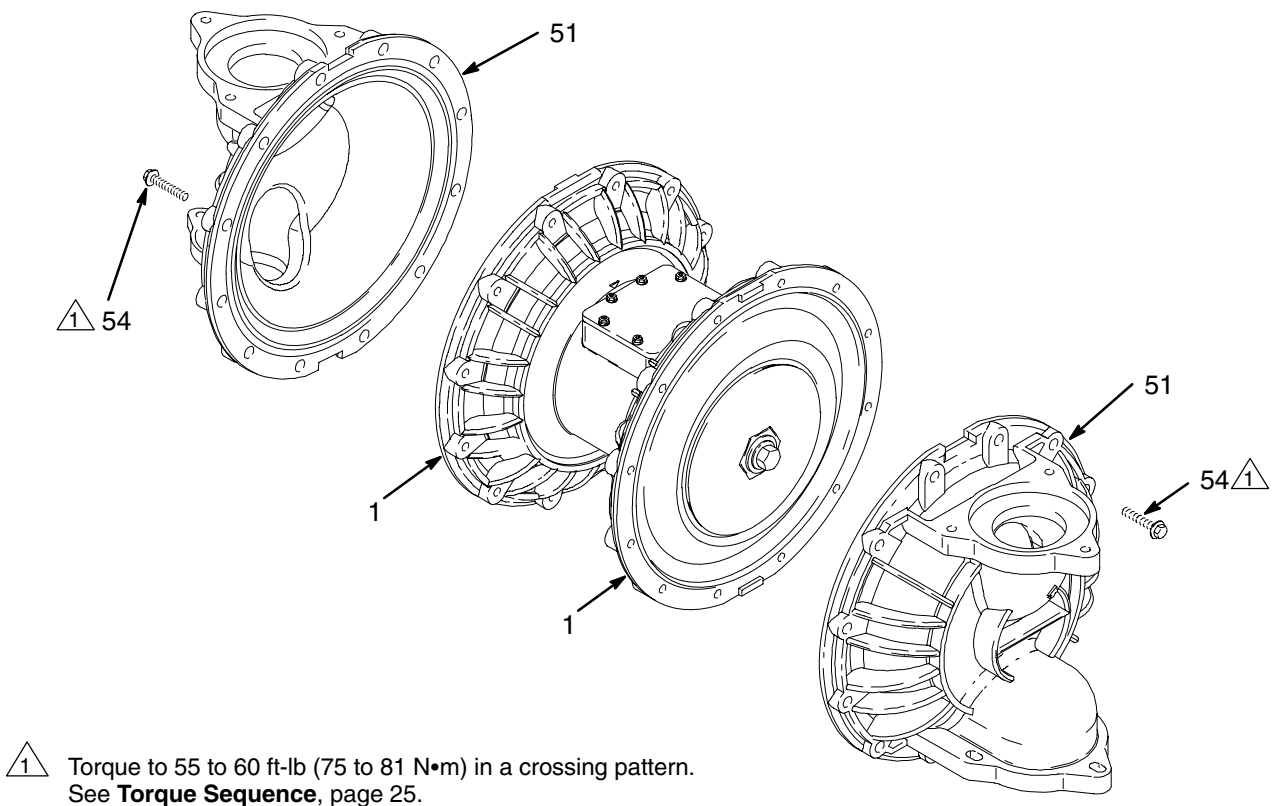

Fig. 7
3. Using a 15-mm socket wrench, remove the screws (54), and pull the fluid covers off the pump. See Fig. 7.
6. Install the fluid cover screws (54) hand tight. Torque the screws to 55 to 60 ft-lb (75 to 81 N•m) in a crossing pattern. See Fig. 7. See **Torque Sequence**, page 25.